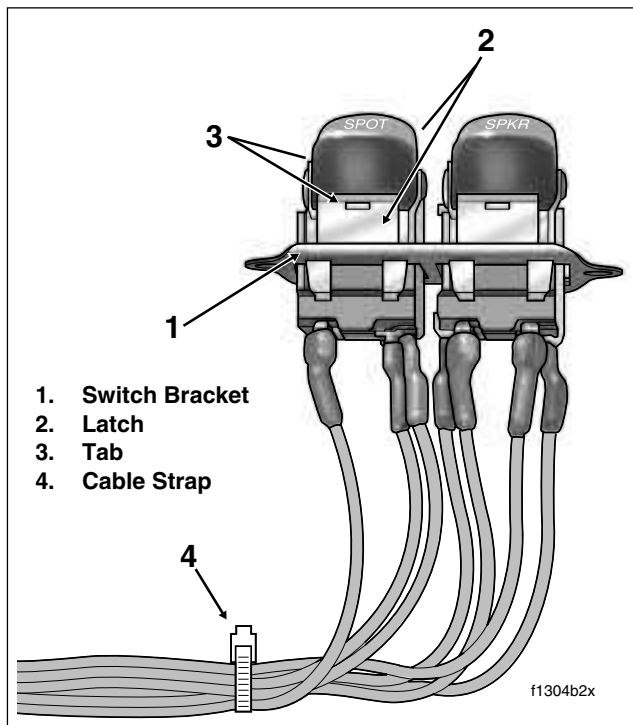

Figure 8-81. Bend Latches Outward to Release Tabs
7. Gently pry two latches on bracket outward to release tabs on switch. Remove switch from bracket. See Figure 8-81.